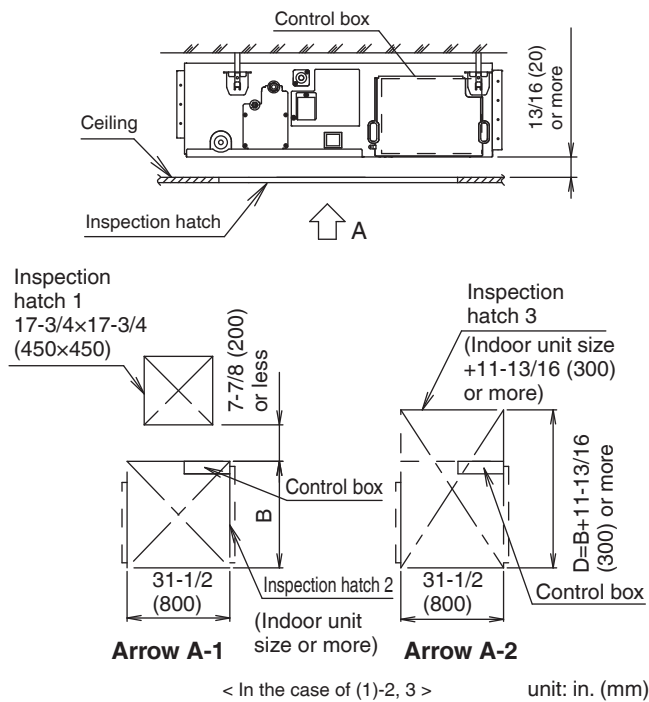

Fig. 4
- Inspection hatch 1 17-3/4x17-3/4 in. (450x450 mm) on the control box side and inspection hatch 2 on the bottom of the unit. (Fig. 4, arrow A-1)
- Inspection hatch 3 on the bottom of the unit and on the bottom side of the control box. (Fig. 4, arrow A-2)